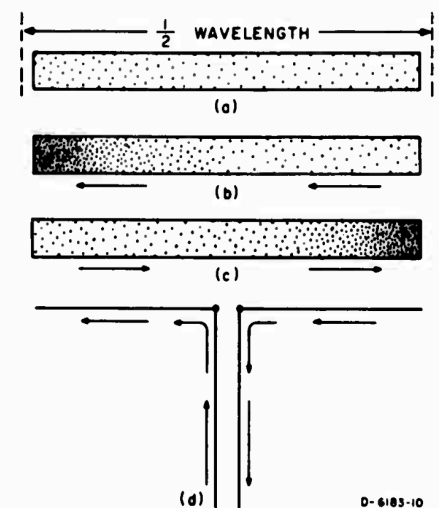

FIG. 10 CURRENT FLOW IN DIPOLE ANTENNA
For example, Figure 10 is used to describe current flow in a dipole antenna.
*“Electric current in a conductor consists of the flow of small particles called electrons. Figure 10(a) represents a dipole with electrons in it. When the transmitter is turned off, the electrons distribute themselves evenly throughout the dipole, as shown. All electrons repel each other and try to get as far from each other as possible; that is how they achieve the uniform distribution shown in Figure 10(a). When the transmitter is turned on, the electrons flow back and forth from end to end as shown in Figures 10(b) and 10(c). First the electrons flow to the left and crowded at one end as shown in Figure 10(b). Second, since the electrons repel each other, they push off to the right and get crowded together at the other end, as in Figure 10(c).”*
*“The difference between voltage (volts) and current (amperes) in a dipole is also illustrated by Figs. 10(b) and 10(c). You can see that the maximum flow of current is going to be in the middle of the dipole. An observer at the center of the dipole would see the electrons rush past, first one way and then the other. The center is the maximum current point. Very little current flows near the end of the dipole; in fact, at the extreme ends there is no current at all for there is no place for it to go. However, at the ends of the dipole, there is a great change of voltage; when the electrons are densely packed, this represents a negative voltage, and when there is a scarcity of electrons, it represents a positive voltage. Thus you can see that the voltage at each end swings alternately positive and negative. An end of the dipole is a maximum voltage point.”*